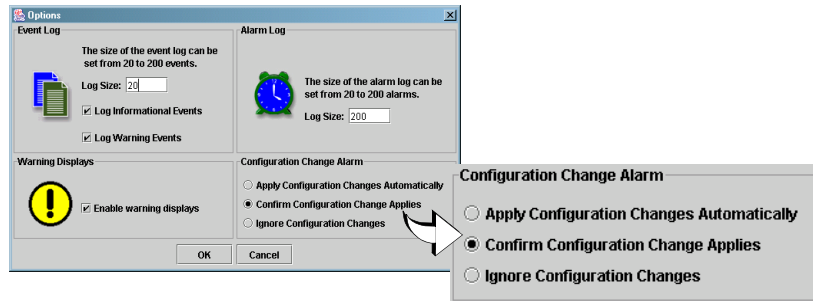

Figure 6-7. Options Dialog Box—Configuration Change Alarm Section
1. On the SANblade Manager main window **View** menu, select **Options**. The **Options** dialog box displays (see figure 6-7).